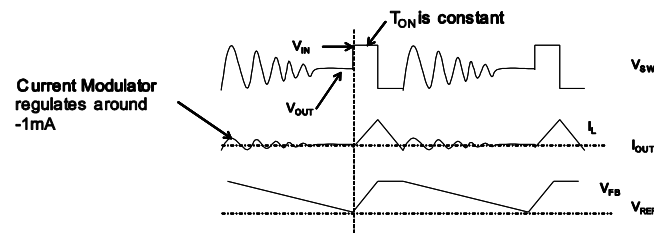

Figure 3—DCM Operation
Discontinuous conduction mode is shown in Figure 3. When V_{FB} is below V_{REF} , the HS-FET is turned on for a fixed interval, which is determined by the one-shot on-timer. See Equation (1). When the HS-FET is turned off, the LS-FET is turned on until the inductor current reaches zero. In DCM operation, the V_{FB} does not reach V_{REF} when the inductor current is approaching zero. The LS-FET driver turns into tri-state (high Z) when the inductor current reaches zero. A current modulator takes over the control of the LS-FET and limits the inductor current to less than -1mA. Hence, the output capacitors discharge slowly to GND through the LS-FET. As a result, the efficiency during a light-load condition is improved greatly. The HS-FET is not turned on as frequently during a light-load condition as it is during a heavy-load condition (skip mode).